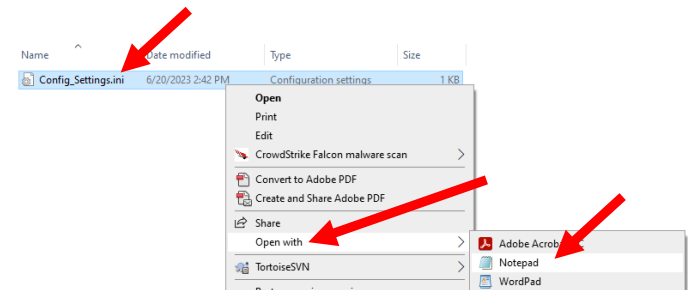

Figure 28
4. Open explorer and right click on the file named **fryer.conf** and open with Notepad to edit the file (see Figure 28).